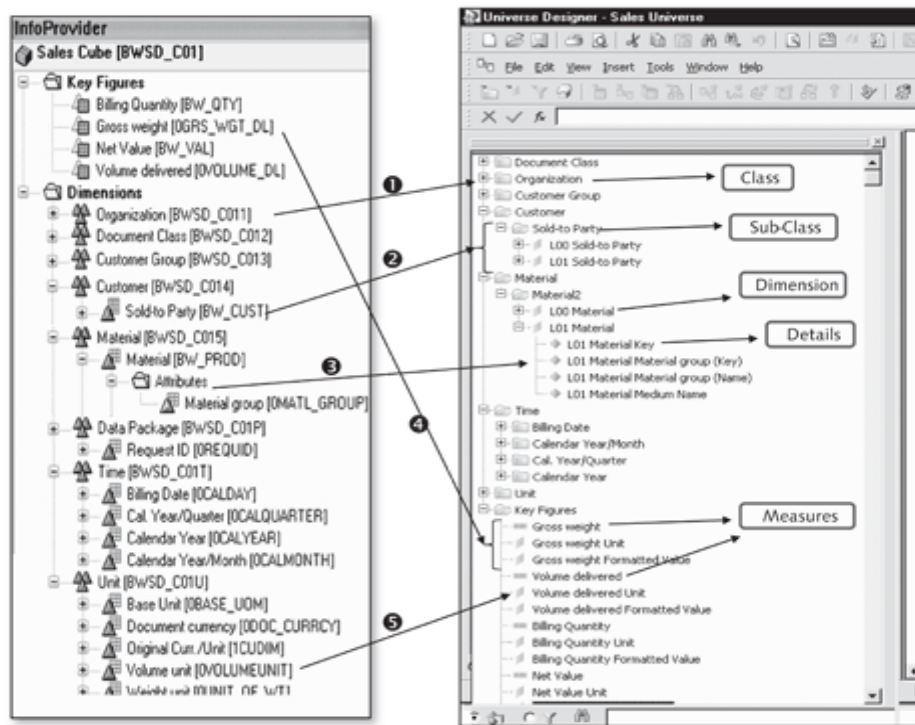

Figure 13.11 Mapping of InfoCube Elements and Generated Universe
Based on the connection definition and the data provider selected, the Universe Designer automatically generates the universe by converting the metadata from SAP NetWeaver BW to SAP BusinessObjects. Different OLAP components are mapped to corresponding universe elements, and the generated universe is displayed (Figure 13.11). This figure also shows a mapping of the SAP NetWeaver BW cube elements to the converted universe elements.
All dimensions are converted to universe classes, and a separate key figures class is created for all of the key figures in the cube (❶ of Figure 13.11). A subclass is created for each of the characteristics contained in a SAP NetWeaver BW cube dimension. The subclass contains dimension objects L00 and L01, which further include the detail objects (e.g., L00 Material and L01 Material as shown in ❷). The L00 and L01 nodes correspond with the hierarchy on the characteristic. Level 00 or node 00 represents the root node of the hierarchy, which includes all of the values defined in the hierarchy as well as the values not assigned in the hierarchy. In simpler words, level 00 (L00) contains all values for a characteristic and is useful only if the reporting has to happen on the unassigned members as well. In a straightforward scenario, the L00 node can be removed from the universe, and level L01 behaves similar to a characteristic defined in the cube.